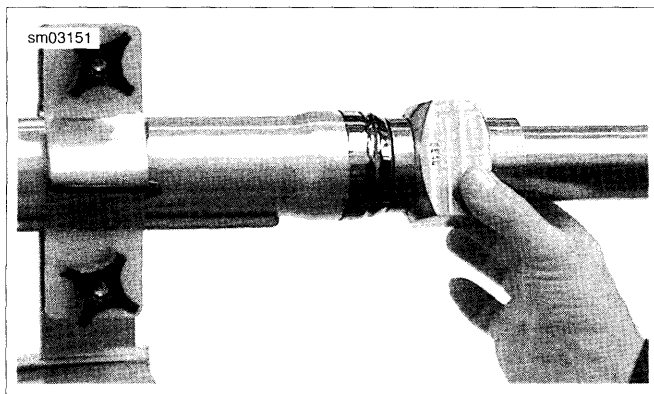

Figure 2-177. Install Chrome Dust Cover
6. See Figure 2-177. Remove FORK SEAL DRIVER and reverse tool to short side of tool to prepare to install chrome dust cover. Rotate slider cover to match any removal burrs in slider and tap chrome dust cover into place.